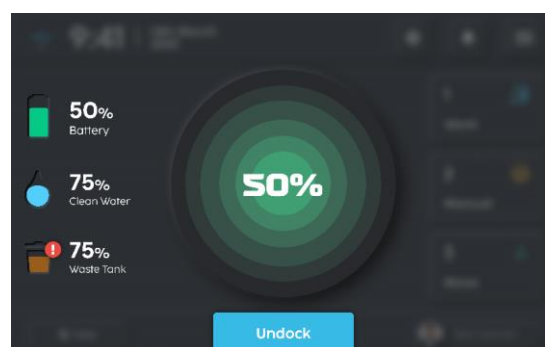

Fig. 6
7. To undock robot after charging and water exchange select 'Undock' (Fig. 6).